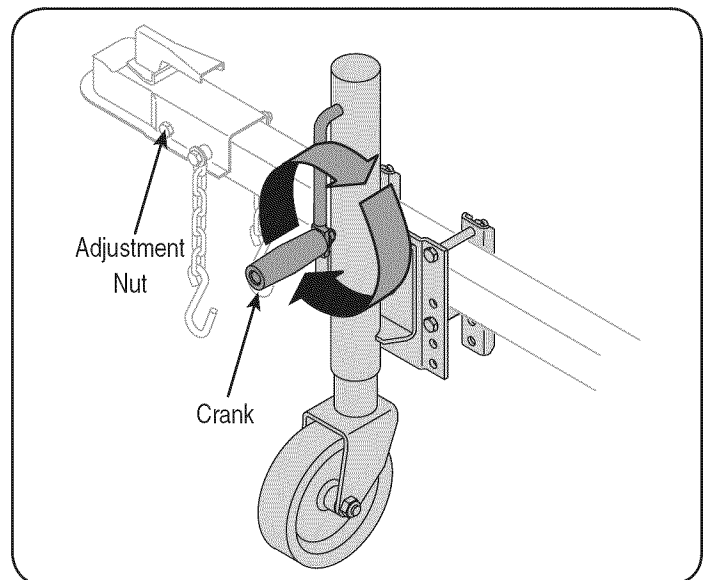

Figure 16
4. Raise the adjustable jack stand by turning the crank clockwise. See Figure 16.